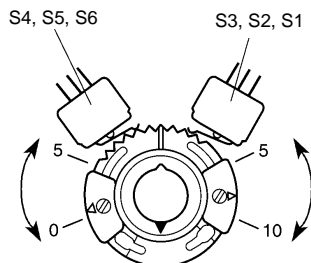

Fig.4
4. Slide the cam along the slot so that the arrow is set to the required switching position. The actuator is marked from 0 to 45° and 45 to 90° to make switch setting simple (Fig.4). Tighten the screw to fix the cam in position.